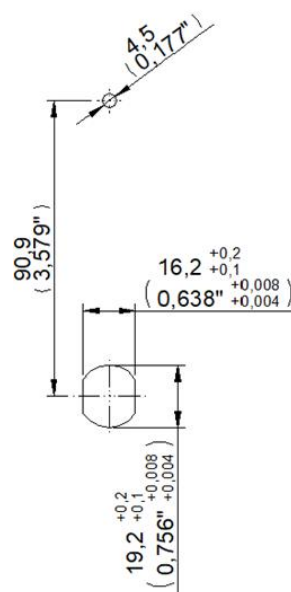
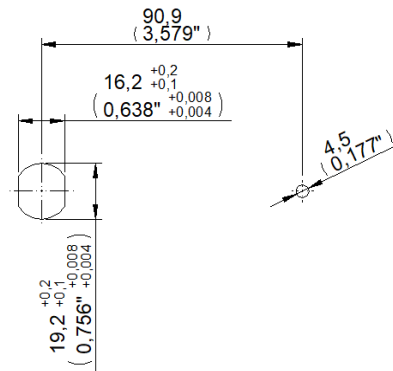

Figure 2. Fixing holes for vertical version lock
Figure 4. Fixing holes for horizontal version lock
In order to avoid assembly problems of the lock (the cam may get stuck, the nozzle may seize, etc.), it is necessary that the fixing holes in the door are drilled during the machining process of the door. The dimensions and positions of these holes are shown below in Figure 2 and Figure 4, depending on the door material.
1. Drill the necessary holes on the furniture door according to the drilling template shown on *Figure 2* and *Figure 4*.